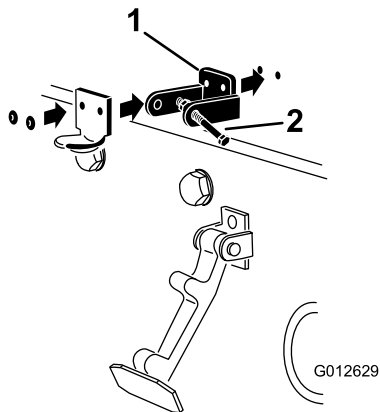

Figure 16
Note: The lock bracket must be against the hood (Figure 16). Do not remove the bolt and nut assembly from the lock-bracket arm.
5. Rivet the brackets and the washers to the hood (Figure 16).